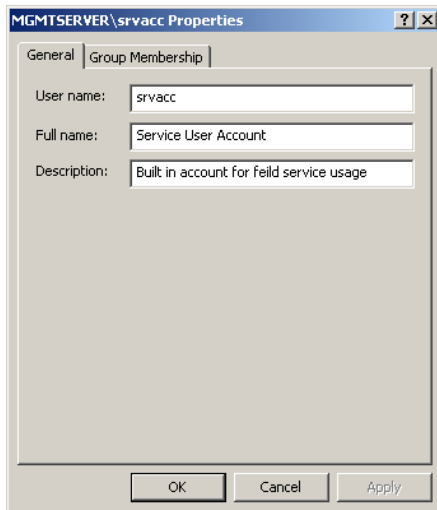

Figure 2-63 MGMTSERVER\srvacc Properties Dialog Box (General Tab)
1. At the *Users and Passwords* dialog box, highlight the user (*srvacc*, for example) at the *Users for this computer* field and click *Properties*. The *MGMTSERVER\srvacc Properties* dialog box displays with the *General* tab selected (Figure 2-63 on page 2-68).